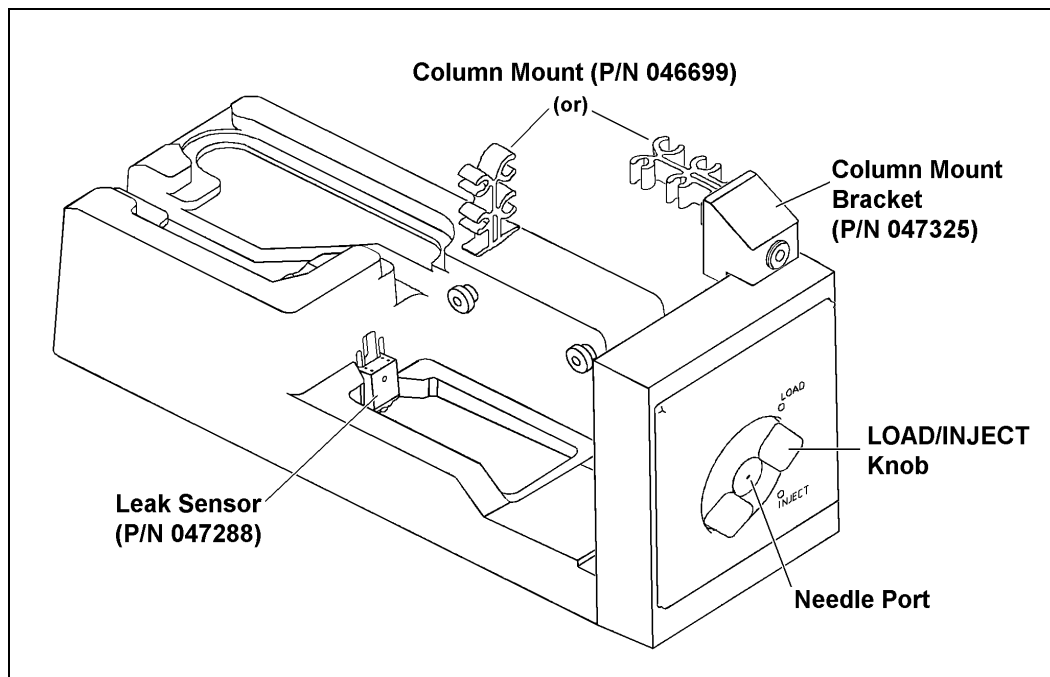

Figure 1-1. LC10 Chromatography Organizer (Front View)
Figures 1-1 and 1-2 illustrate the basic components of the LC10.
4. Cut two pieces of 0.5-mm (0.020-in) ID PEEK tubing at least 75 cm (30 in) long. Install a ferrule and 10-32 fitting on one end of each piece of tubing; attach these ends to ports #5 and #6 on the Rheodyne valve. Route the free ends into the drain line at the back of the leak sensor recess (see Figure 1-1 for the location of the leak sensor); feed the remaining length of tubing into the drain line.
1. Push back and down on the leak sensor (P/N 047288) to verify that it is securely seated (see Figure 1-1).